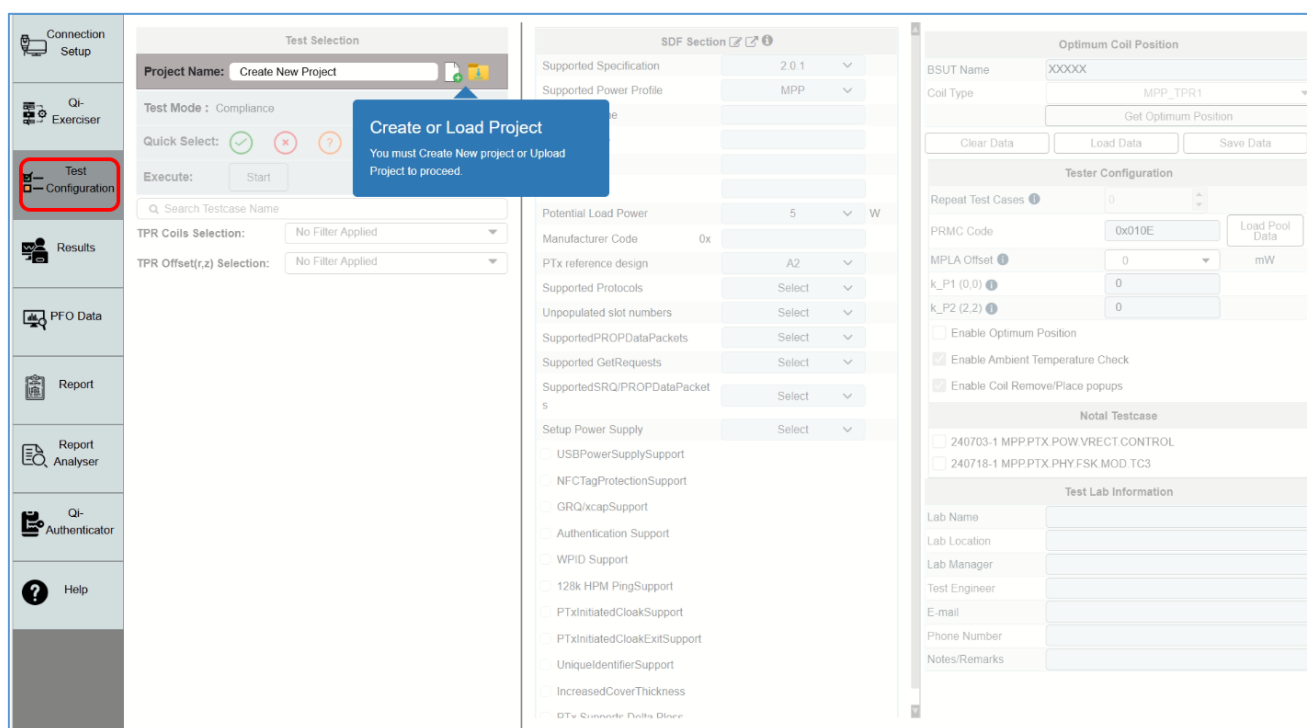

FIGURE 6.2: TEST CONFIGURATION SCREEN
2. Click on the **Test Configuration** tab on the left-side bar of the application as shown in Figure 6.2 below.